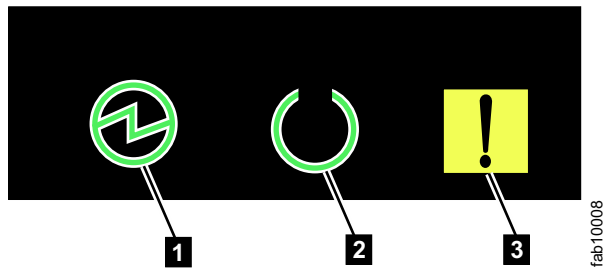

Figure 133. Node canister LEDs
5. From the rear of the control enclosure, check the LEDs on each node canister (see Figure 133).